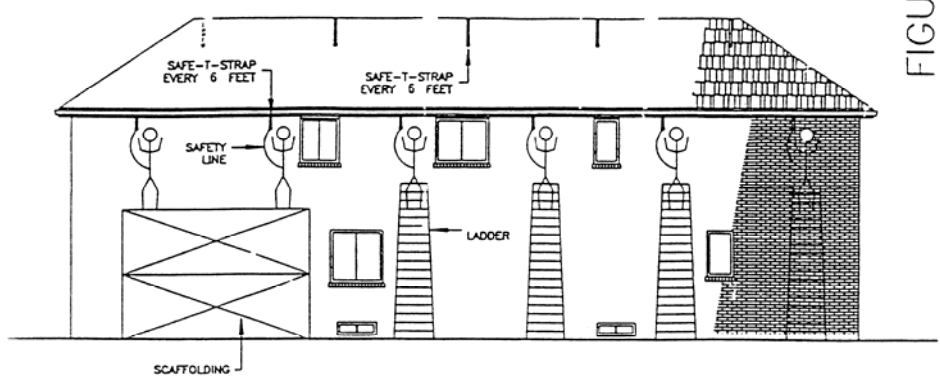

FIGURE 5
WHEN INSTALLING SAFE-T-STRAP ON FLOORS, A THREE INCH ARDOX NAIL MUST BE INSERTED THROUGH THE STITCHED LOOPED END OPPOSITE THE D-RING. STRAPS SHOULD BE PLACED A MEASURED DISTANCE FROM THE PERIMETER OF THE FLOOR INCLUDING THE LENGTH OF THE LANYARD USED TO ENSURE ADEQUATE TRAVEL RESTRAINT. IT IS A REQUIREMENT OF THE ENGINEERED SYSTEM THAT FOUR (4) OF THE DOUBLE-HEADED NAILS SUPPLIED TO SECURE THE STRAP TO THE FLOOR, ARE NAILED INTO A FLOOR JOIST BELOW THE PLYWOOD FLOOR. **SEE FIGURE 5**
THE PLACEMENT OF THE STRAPS ON BOTH THE TOP PLACE OF THE SECOND STOREY WALL, THE ROOF TRUSSES AND THE FLOOR WILL DEPEND ON THE STYLE OF THE HOUSE. **THE RECOMMENDED PLACEMENT IS APPROXIMATELY EVERY 6 FEET.** ON COMPLETION OF INSTALLATION, SAFE-T-STRAPS SHOULD HANG AT LEAST 12" INCHES FROM THE PEAK OF THE ROOF. **SEE FIGURE 5.** SAFE-T-STRAP IS AN ENGINEERED PRODUCT, ONCE INSTALLED SAFE-T-STRAP IS NOT TO BE RE-USED.